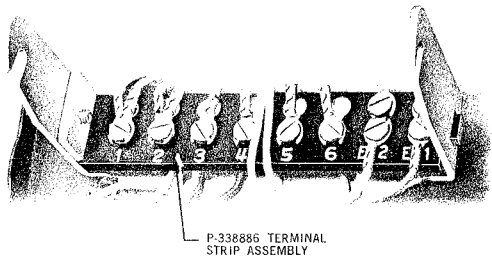

Fig. 4 — Terminal Strip
- (b) The 500MR telephone set is equipped with a 4-conductor mounting cord and terminal strip (Fig. 4). It is used when a single line station installation is required with a 1A1 key telephone system. The set may also be used at installations which require the ringing circuit